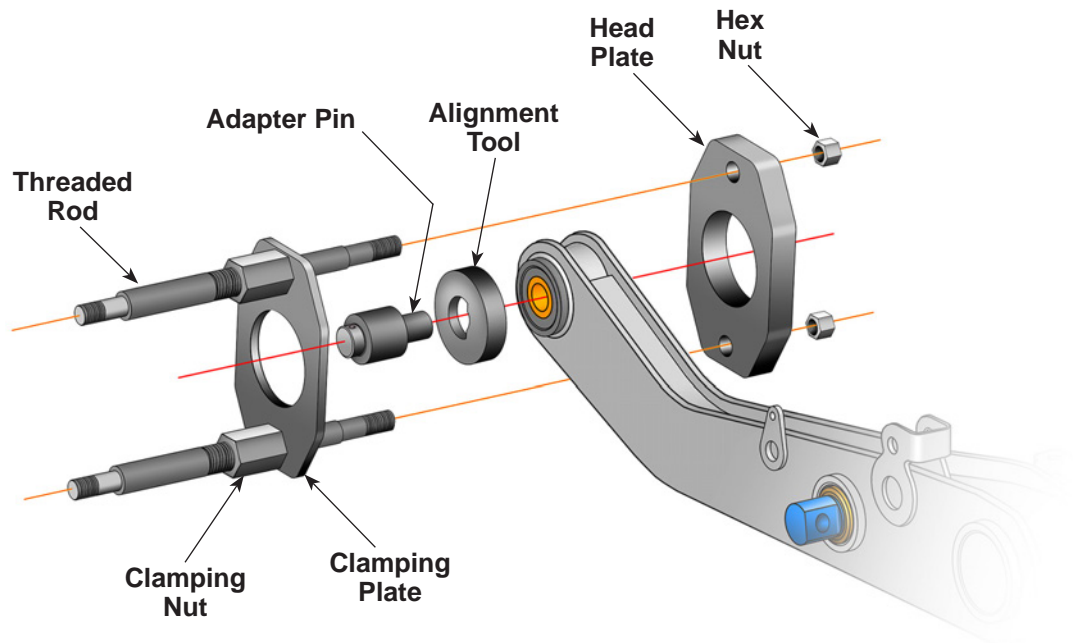

Figure 17
1. Insert the *adapter pin* through the *alignment tool* and into the pivot bushing hole as shown in Figure 17.